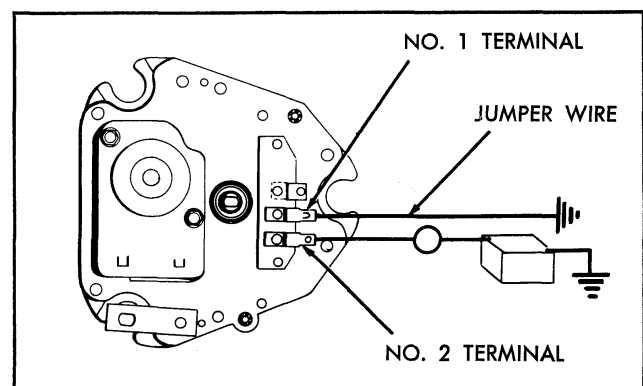
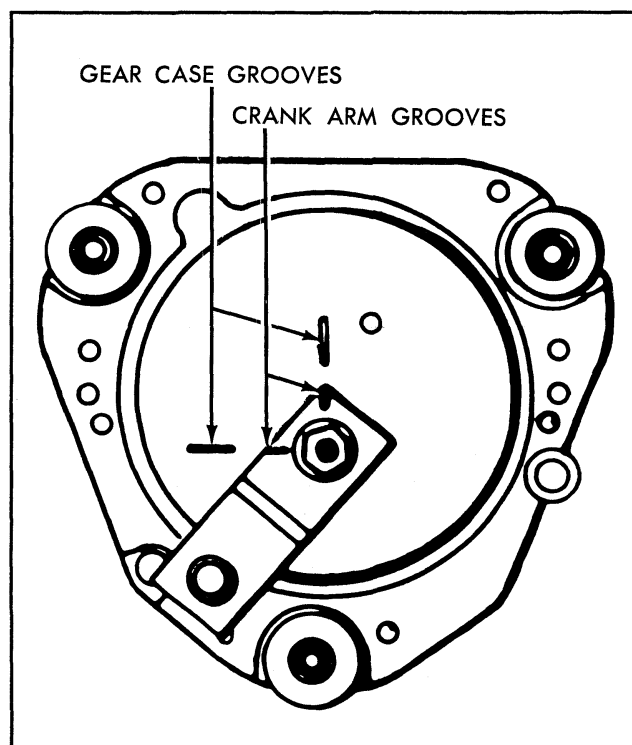

Fig. 11-86 Connection for Test Purposes
Fig. 11-91 Crank Arm in Park Position
Fig. 11-86 shows the proper method of connecting jumper leads to the wiper so that it can be operated
2. If everything checks out in step 1 and wiper fails to operate, disconnect wiring harness from wiper and check for 12 volts at harness terminal that connects to wiper terminal No. 2, Fig. 11-86.
3. Connect 12 volt supply to No. 2 wiper terminal and connect a jumper wire from terminal No. 1 to ground (Fig. 11-86). If wiper operates, the dash switch or wiring between dash switch and wiper is defective.
2. If wiper still operates in step 1, disconnect wiring from wiper and connect 12 volt supply direct to wiper terminal No. 2 (Fig. 11-86). Do not connect any jumper wire to terminal No. 1.
Connect 12 VDC Power source and ammeter to wiper as shown in Fig. 11-86 and observe current draw and wiper operation.
NOTE: When crank arm has reached park position the crank arm index grooves will line up approx. with the ridges on the gear box cover (Fig. 11-91).
Wiper crank arm fails to stop in park position when jumper wire is removed from wiper Terminal No. 1, Fig. 11-86.
2. Check for grounded condition in the internal motor lead that connects to terminal No. 1, Fig. 11-86.
2. Reassembly of Crank Arm - Operate wiper to park position (Fig. 11-86) and install crank arm on output shaft so that identification marks line up with those in the cover (Fig. 11-91). Clamp crank in vise before securing the retaining nut.